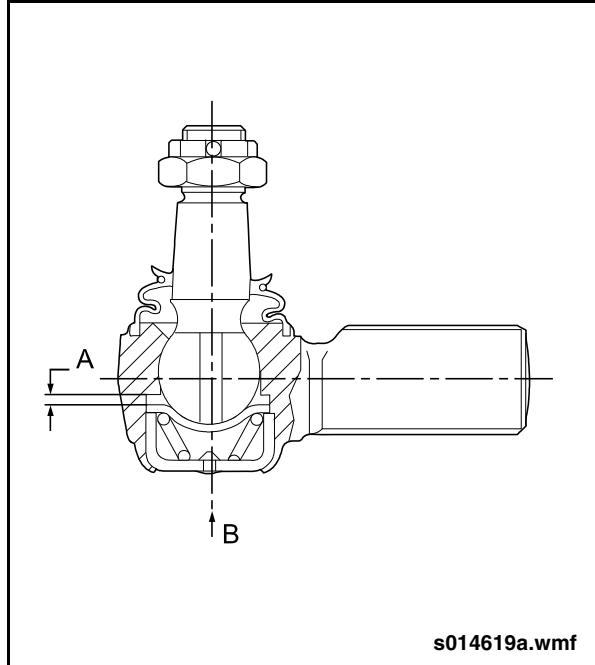

Fig. 3-14: Ball Joint End Lift Measurement
- d. Perform a ball joint end lift measurement by applying a load through the axis of the pin and measuring its movement relative to the socket body. See "Fig. 3-14: Ball Joint End Lift Measurement" on page 26. Refer to following table for wear limits.